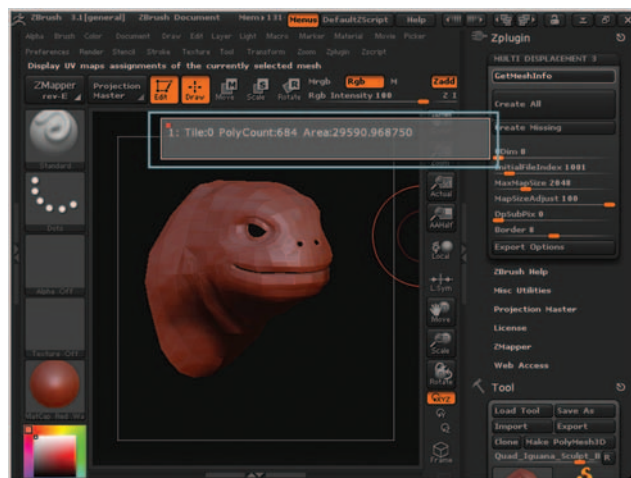

Figure 11.44 Clicking GetMeshInfo brings up the tile prompt (blue).
9. Click on the GetMeshInfo button. If your UVs in Max were located within the thicker grid lines of the UV Unwrap window, the ZBrush GetMeshInfo dialog box will list one tile (Figure 11.44). This step is just a check to be sure there is only one tile.